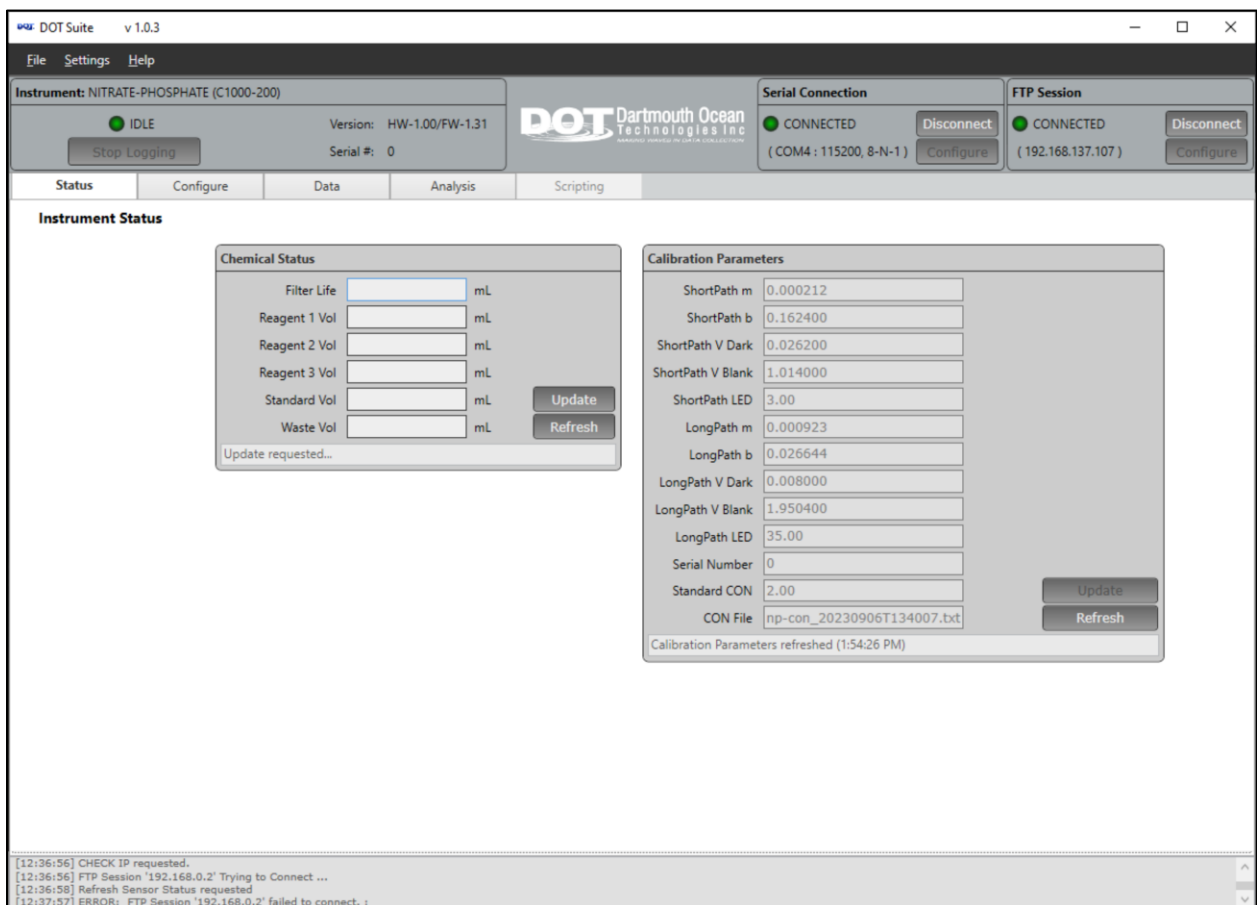

Figure 5: DOT Suite – Status tab.
- Figure 5: DOT Suite – Status tab. 7